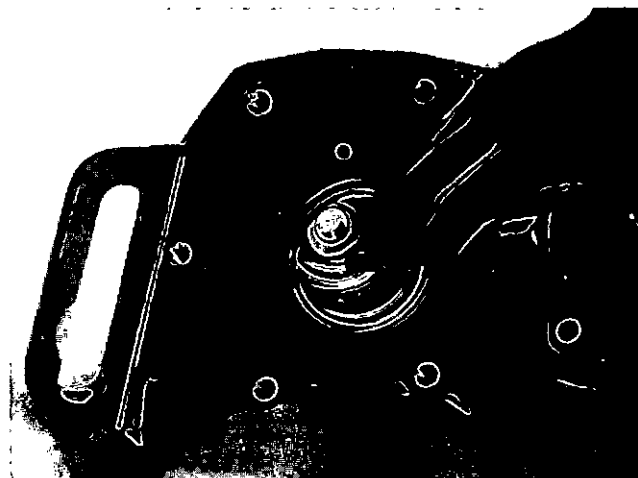

Fig. 8-37 (N10878). Remove The Seal From The Housing.
6. Remove the cupseat (17, Fig. 8-34). Use a drift to push the grease seal (11) and face seal (15) from the housing as shown in Fig. 8-37. Discard the cupseat and seals.